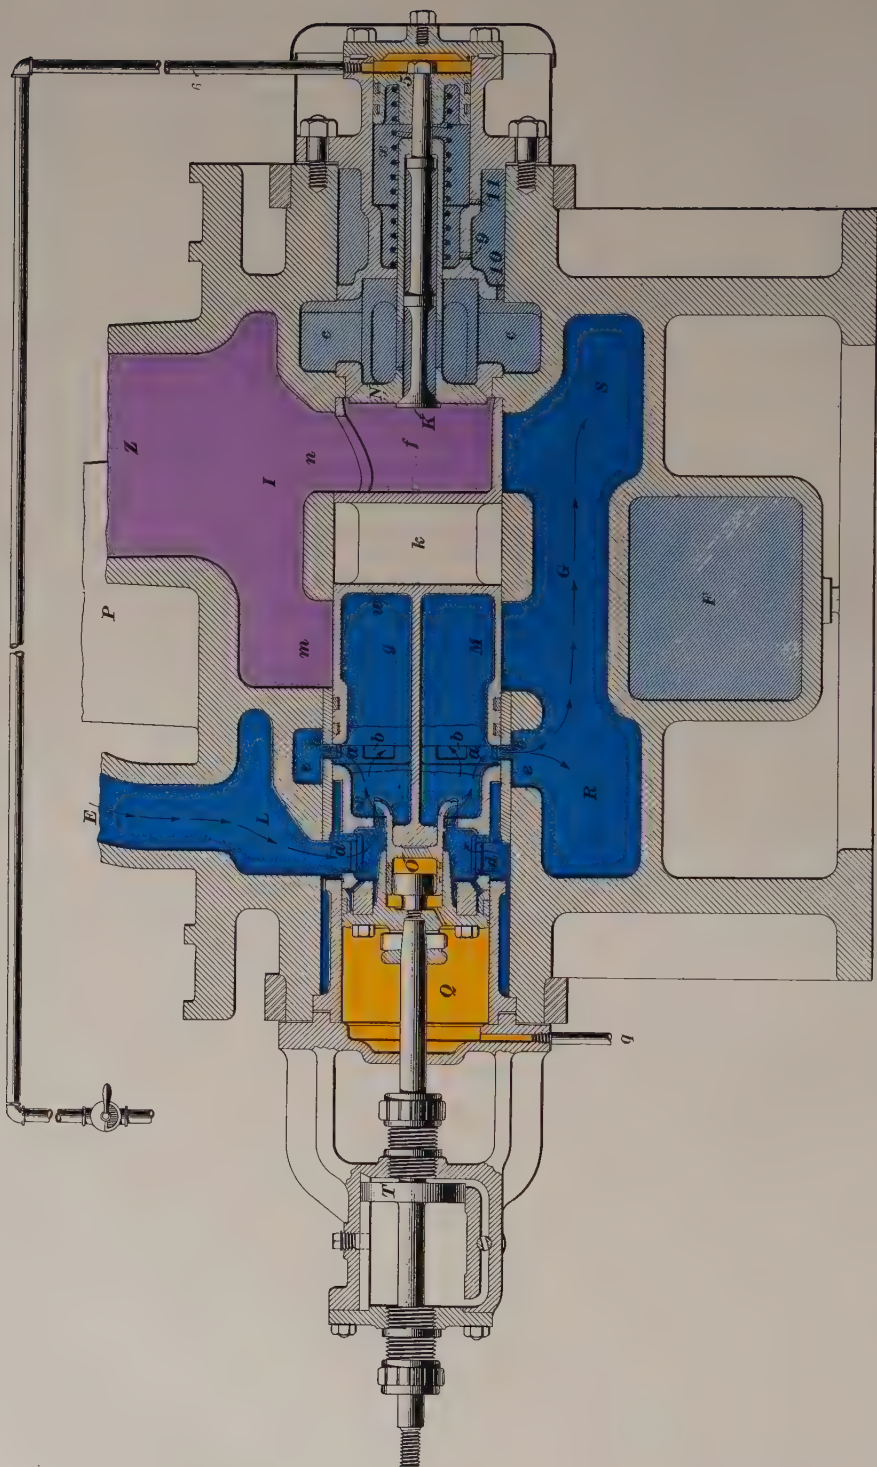
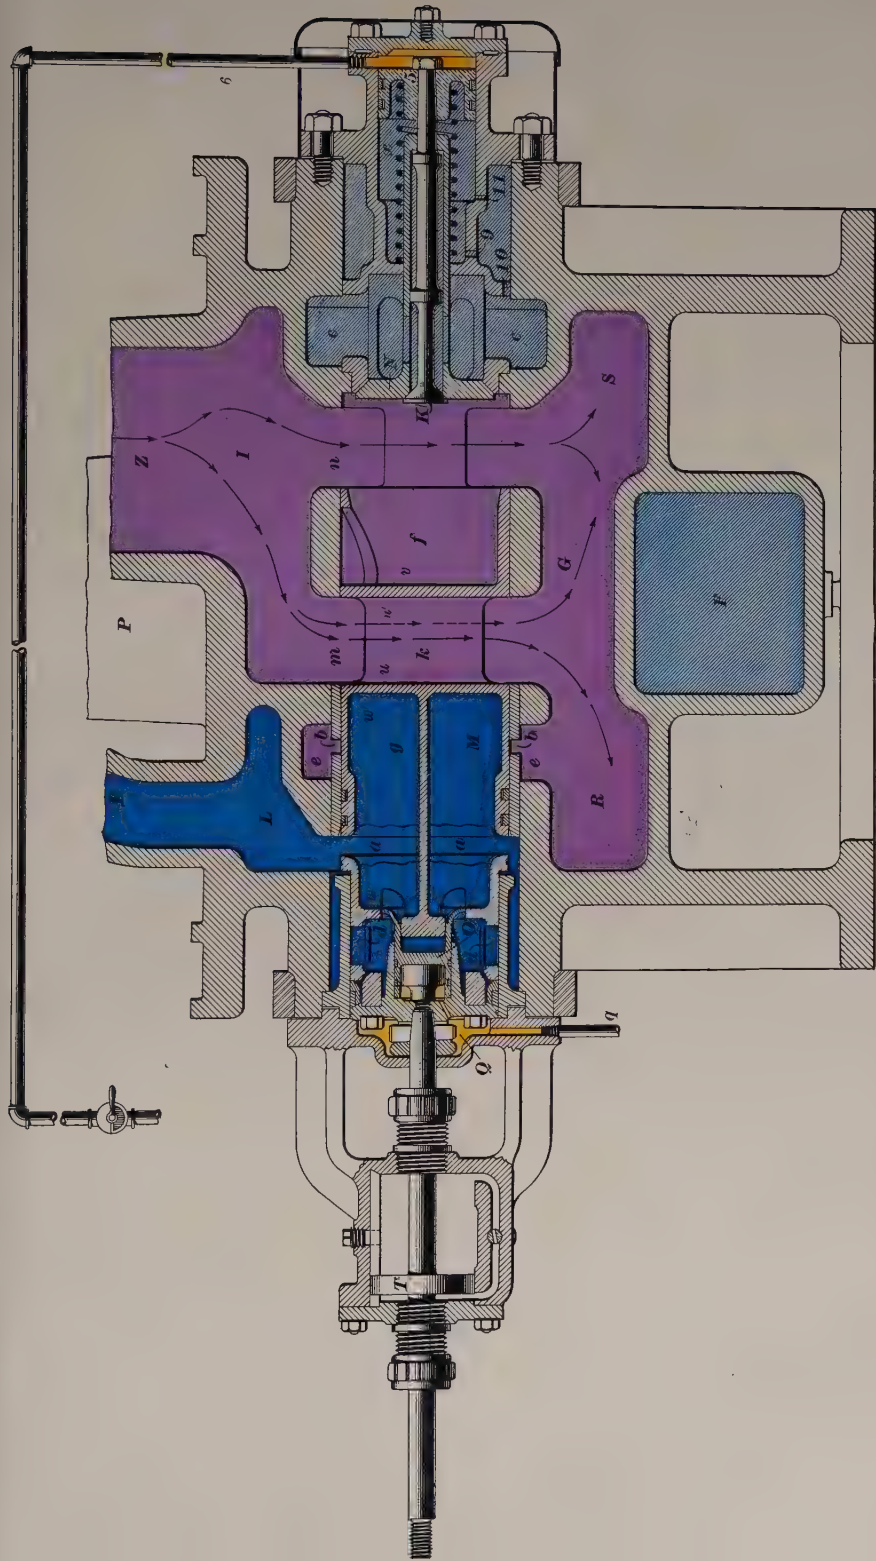

FIG. 22
FIG. 23
from the boiler into the high-pressure steam chest through the pipe *D*, Fig. 19, and into the chamber *L* through the small steam pipe *E*. The steam in chamber *L* passes through port *d* into chamber *g* of the intercepting valve, and, on account of the greater area in the front end *w'*, forces the intercepting valve into the position shown in Fig. 22. In this position, the intercepting valve closes the passages *m*, *n* that lead from chamber *I* to chamber *G*; and, since the exhaust valve *N* is closed, exhaust steam from the high-pressure cylinder banks up in the receiver as the locomotive moves forwards, and raises the pressure there. Also, in this position of the intercepting valve, live steam from chamber *L* passes through port *d*, reducing valve *O*, ports *b*, through chamber *e* into chamber *G*, whence it passes through the passages *R* and *S* into the two ends of the low-pressure steam chest, as indicated by the arrows. Both the high-pressure and the low-pressure cylinder, therefore, are operated for a time by live steam, although the pressure of the steam in the low-pressure cylinder is reduced by the reducing valve *O*. By the time the drivers have made two or three revolutions, the exhaust steam from the high-pressure cylinder has raised the pressure in the receiver sufficient to cause it to move the intercepting valve into the compound position, as shown in Fig. 23. The intercepting valve remains in this position as long as the engine is working compound, for the following reasons: The pressure of the steam in the receiver on the faces *u* and *u'* balances, and hence produces no tendency to move the valve; the pressure of the steam from chamber *L*, acting on the faces *w* and *w'* of chamber *g*, has a tendency to move the valve into the simple position, but this tendency is overcome by the greater pressure of the steam in the receiver acting on the face *v* of cylinder *f*.
43. Working Compound.—To start the locomotive compound with a light train, it is simply necessary to move the handle of the operating valve into the compound position; if not already there, place the reverse lever in the corner, open the cylinder cocks, and, lastly, open the throttle. In starting thus, live steam is admitted into both cylinders for a few moments (see Fig. 22), after which the intercepting valve automatically cuts off the supply to the low-pressure cylinder, and connects that cylinder with the receiver, from which it thereafter receives its supply. Gradually hook up the reverse lever a couple of notches at a time, as the speed increases, until the lever is in the proper running notch, and carry the throttle as wide open as circumstances will permit.
When working compound, a blow of steam by the packing rings on the part *g* of the intercepting valve, Fig. 23, will allow live steam from chamber *L* to flow into chamber *G*, thus increasing the power on the low-pressure side.